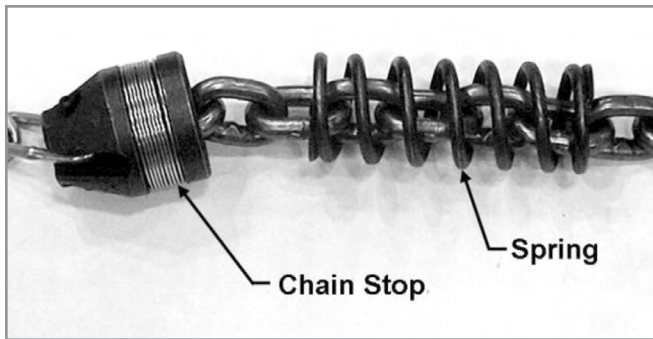

Figure 15
3. On the slack side of the chain, remove the chain stop and the spring (Figure 15). Keep these handy for later re-installing.
3. On the slack side of the chain, remove the chain stop, and remove the black spring(s). (see Figure 15). Keep these handy for later re-installing.